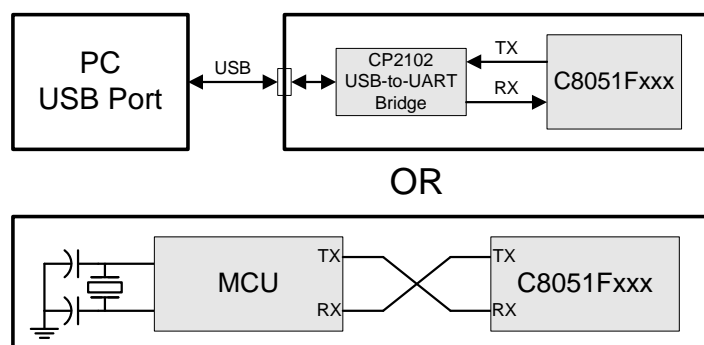

Figure 24.5. Typical UART Interconnect Diagram
In typical UART communications, The transmit (TX) output of one device is connected to the receive (RX) input of the other device, either directly or through a bus transceiver, as shown in Figure 24.5.